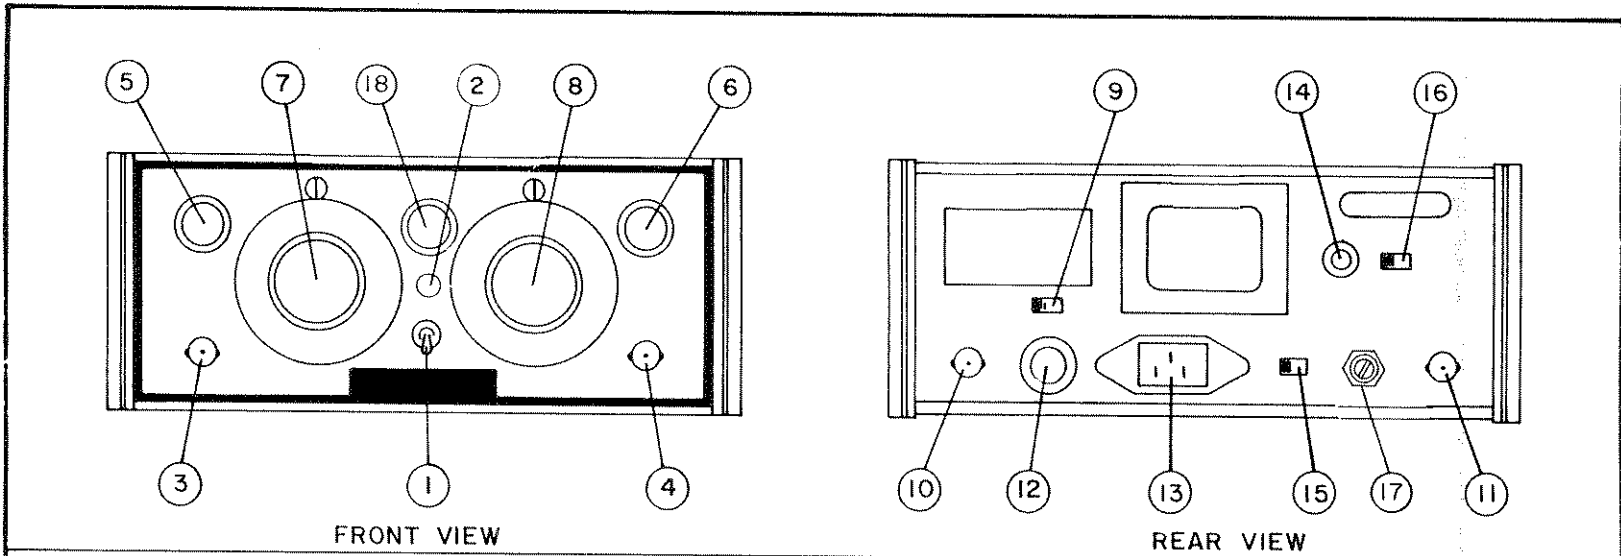

FIGURE 2-2. FRONT AND REAR PANELS
2.2 CONTROLS AND TERMINALS (Figure 2-2)